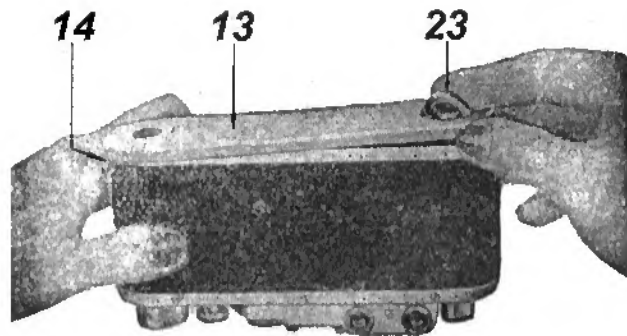

Fig. 2
23. Baseplate Locking Key (see fig 2)).
Take the camera as shown in fig. 2. Lift the key of the lock 23 and twist it counter-clockwise by half a turn. The arrow on the key will then point to «ОТКРЫТО» = "opened"